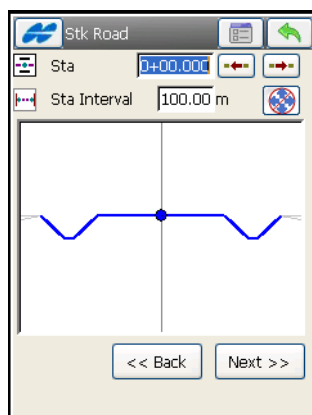

Figure 9-53. Stakeout Road
2. On the *Stk Road* screen (Figure 9-53), set the road to be staked out and the starting station, the height and the type of the antenna (GPS mode), or the height of the rod (TS mode). If staking the transition points (points where horizontal elements of the road change), check the appropriate field. Tap **Next**.